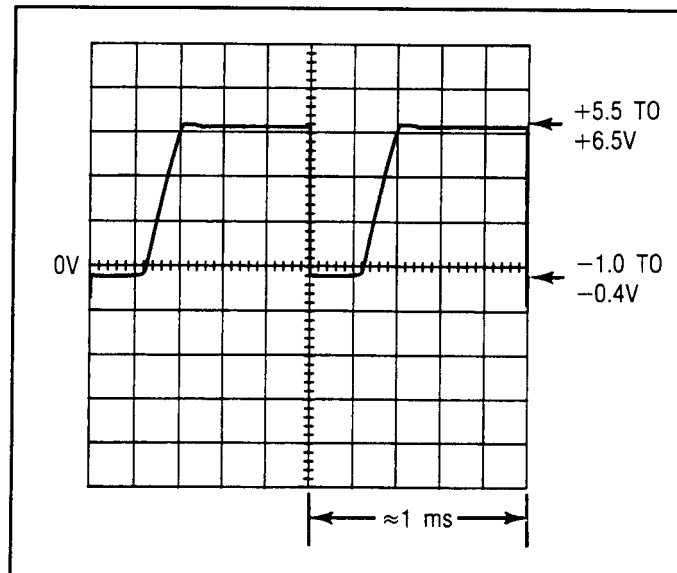

Figure 8C-6. Waveform at A5TP3,  $\langle \sqrt{1} \rangle$  Step 5
6. Connect the oscilloscope to pin 13 of U8C. The waveform should be as shown in Figure 8C-7.